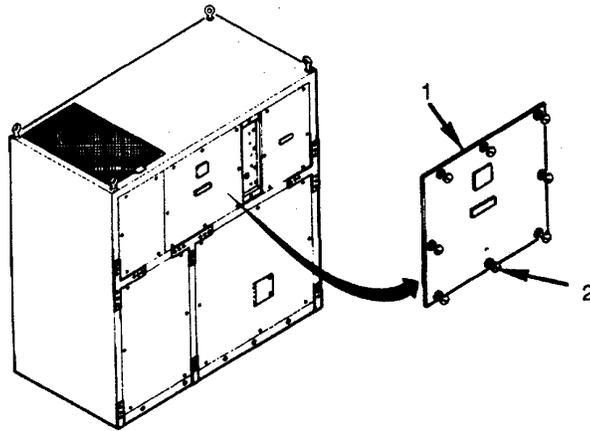

Figure 4-24. Center Front Evaporator Panel Installation
- g. Install Center Front Evaporator Panel. Install panel (1) and tighten eight captive fasteners (2) (see Figure 4-24).